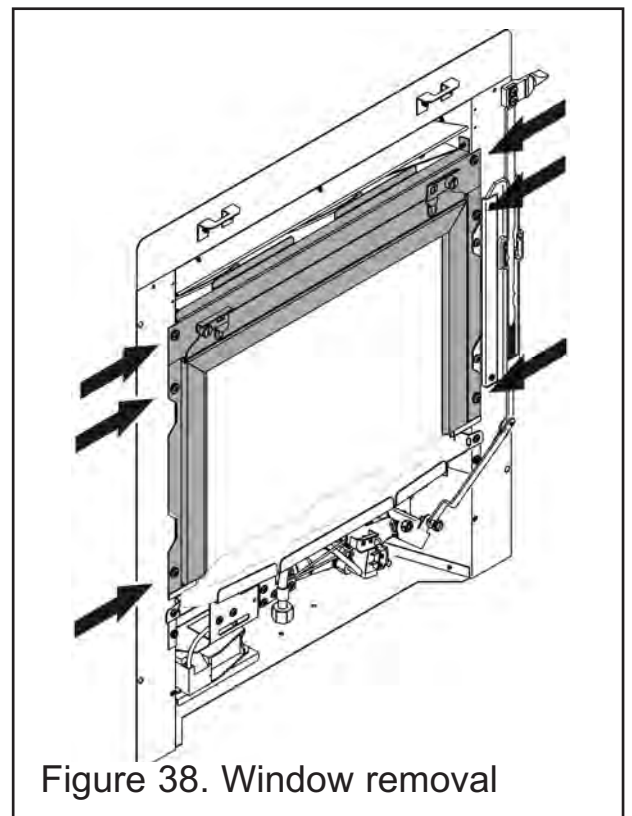

Figure 38. Window removal
2. Unscrew and remove the six screws that secure the window mounting frame and window assembly. Remove and place away from the work area (See figure 38).